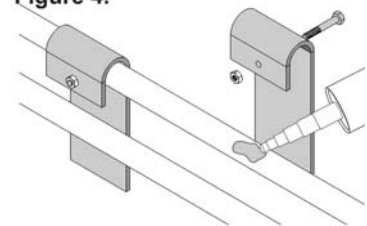

Figure 5.
1. Insert assembled coupling into the end of one pipe so that half of the solid aluminum shaft is inserted (Figure 5).